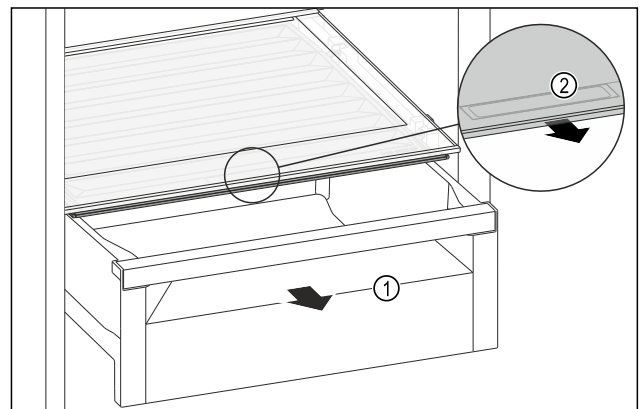

Fig. 142
- ▶ Pull out the drawer Fig. 142 (1).
- ▶ Grip the handle recess Fig. 142 (2) on the lid while pulling the lid forward at the same time.